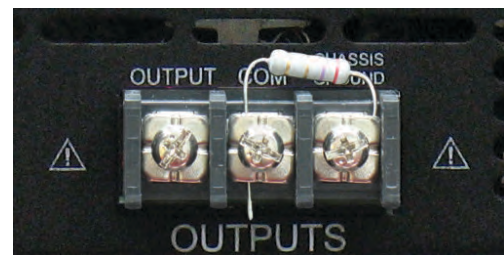

Figure 3.7 – 2105/7212/7224 Output Terminal Resistor
1. On each Follower amplifier back panel, locate and remove the resistor connecting the terminals labeled COM (2105/7212/7224 amplifier) or SAMPLED COMMON (2110/2120/7548/7796 amplifiers) and CHASSIS GROUND on the output connector. See **Figures 3.7 and 3.8**.